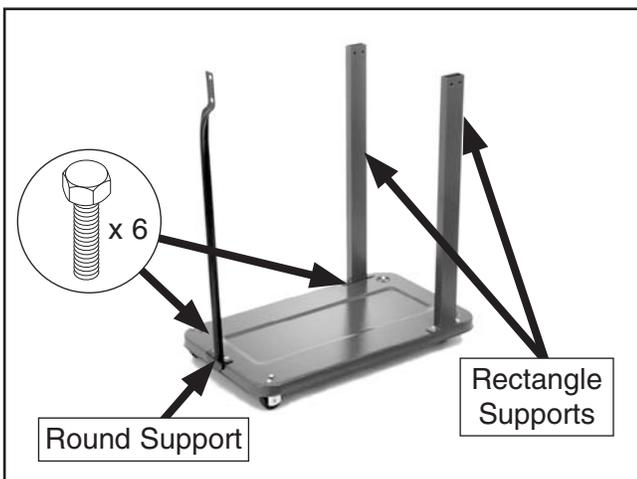

Figure 10. Round and rectangle supports installed onto the base.
2. Place the round and rectangle supports on the base and secure them with (6) $\frac{5}{16}$ "-18 x $\frac{1}{2}$ " hex bolts (see **Figure 10**).